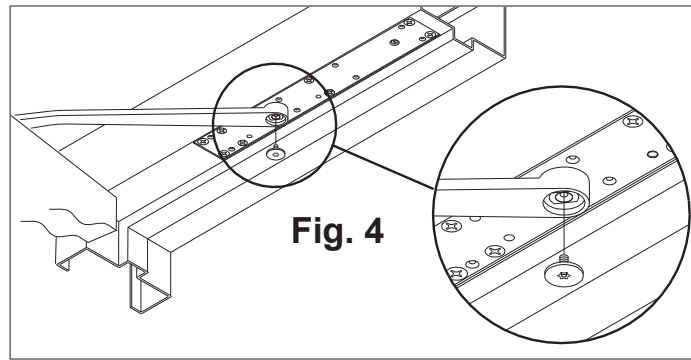

Fig. 4
- d. With closer shaft now stationary, move the end of the arm to shaft of closer. Slowly move door so hole in arm lines up correctly with closer shaft. Push arm up into position and insert arm shaft screw, as shown in Fig. 4.